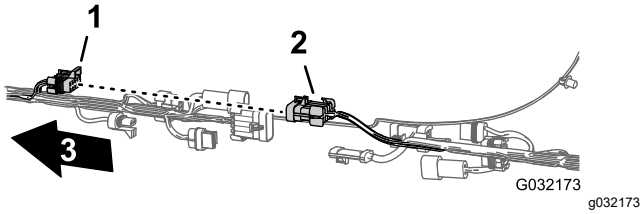
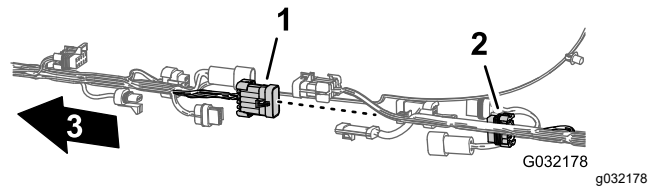

Figure 15
Figure 20
- Disconnect the 6 pairs of connectors between the front and rear wire harnesses as shown in Figure 15 through Figure 20.